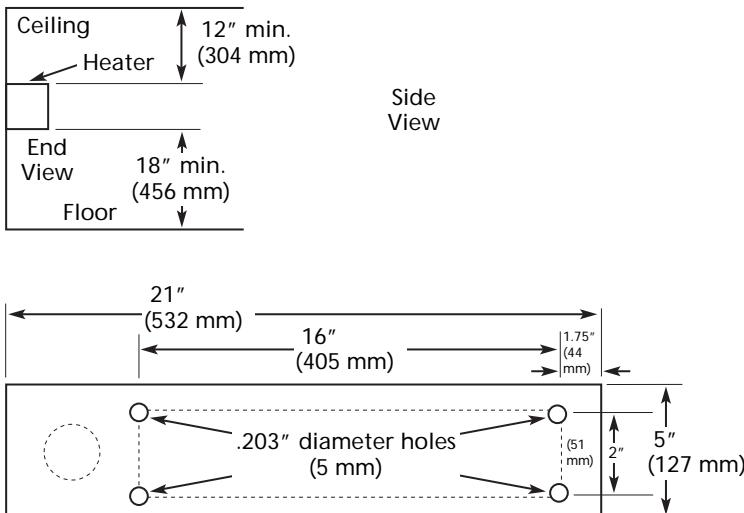

Figure 2
2. Position the heater on wall at desired mounting location maintaining the minimum clearances as noted in Warning 3 and as shown in Figure 2.